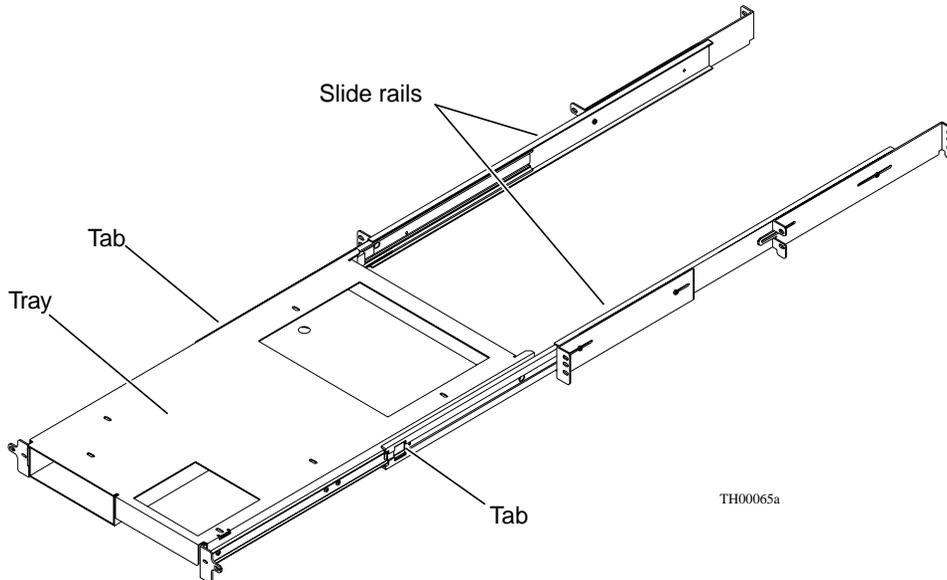

FIGURE 2-5 Removing the Slide Rails
3. Press the outer tabs to release the slide rails (FIGURE 2-5).